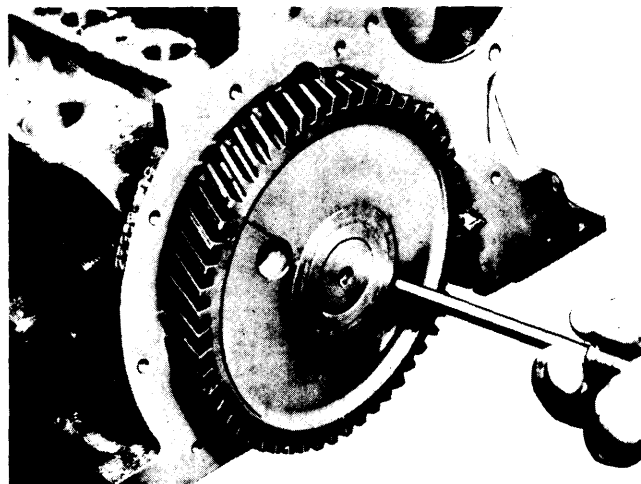

Fig. 8 Removing Thrust Plate Screw with Screwdriver Inserted Through Timing Gear
4) Remove push rod cover and remove lifters. Take off engine front cover and remove two camshaft thrust plate screws. See Fig. 8.